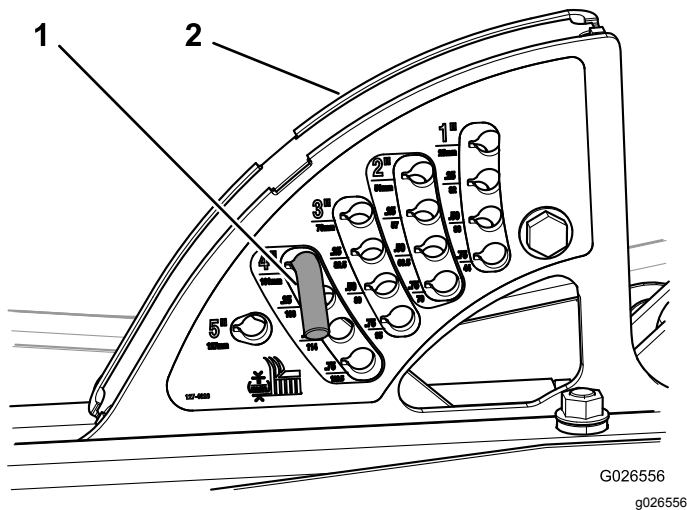

Figure 41
1. Install the height-of-cut pin into the height-of-cut bracket at the desired height of cut (Figure 41).